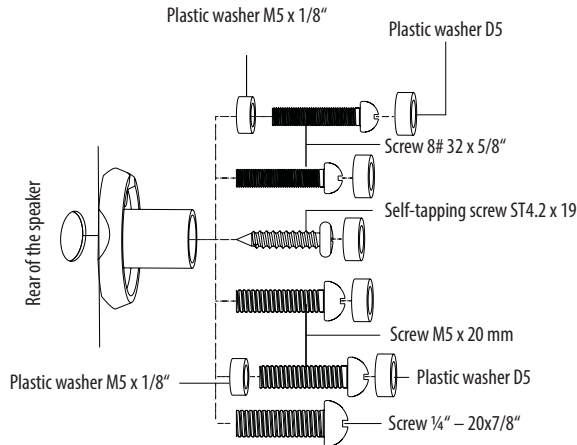

Figure 3
4. Check the hole in the center of the mounting post and make sure that the 8 # - 32 5/8" screw, the ST4.2 x 19 self-tapping screw, the 1/4" - 20 x 1/2" screw, or the M5 x 20 mm screw fit in it (see Figure 3).